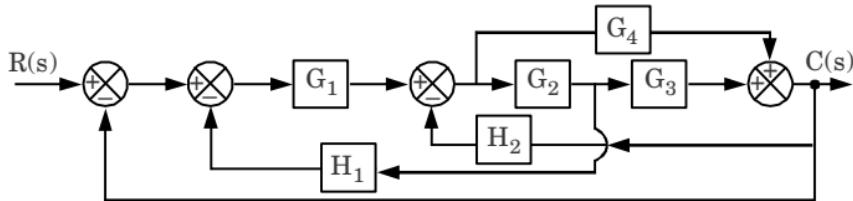

Fig. 2.
- Q. 6.** Using block diagram reduction techniques, find the closed loop transfer function of the system whose block diagram is given in Fig. 2.